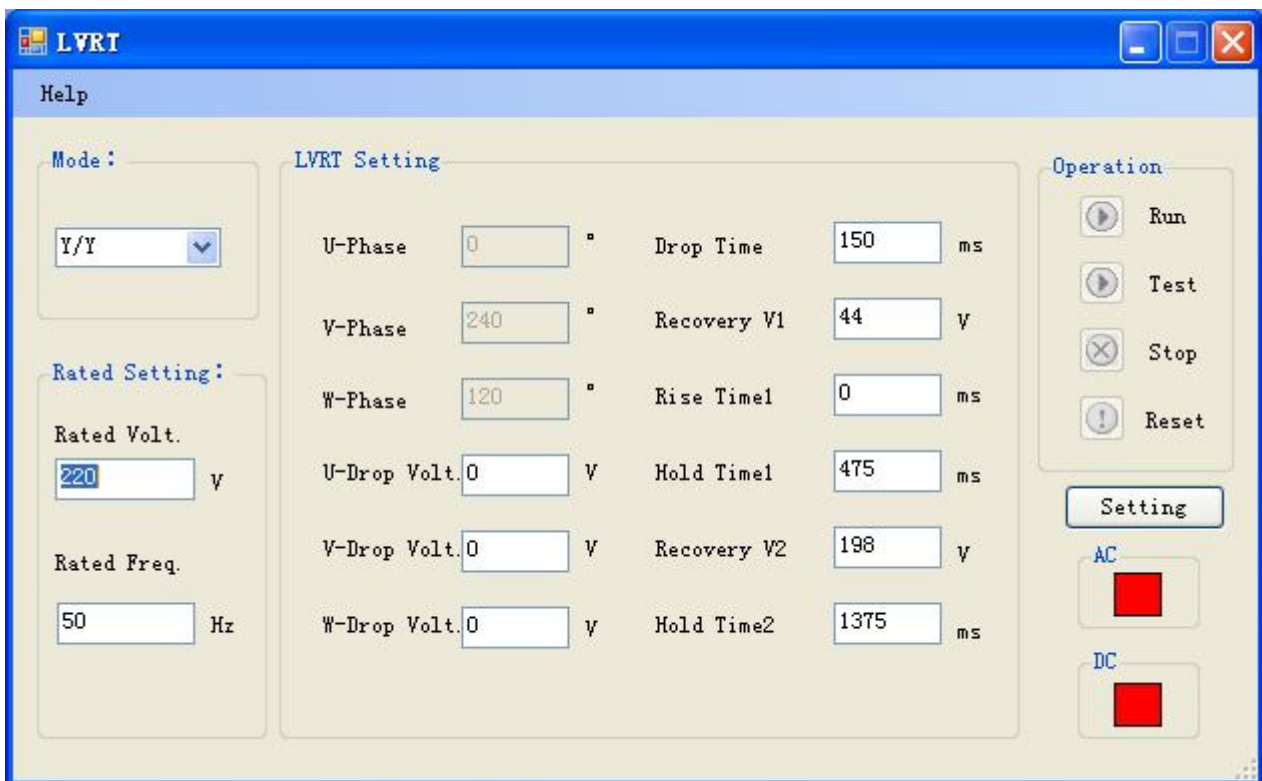

Fig. 5-12 Menu of “LVRT” mode under remote control
(3) In the menu of “Industry Apply”, click on **【LVRT】** will bring you to the menu of “LVRT” mode, as shown in Fig. 5-12: